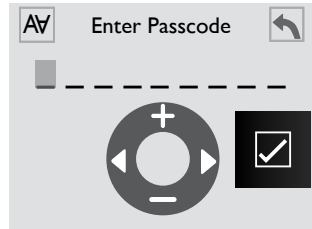

Figure 10.2d
4. Now input the 9-digit passcode, Figure 10.2d, that was provided online when you registered your spa.